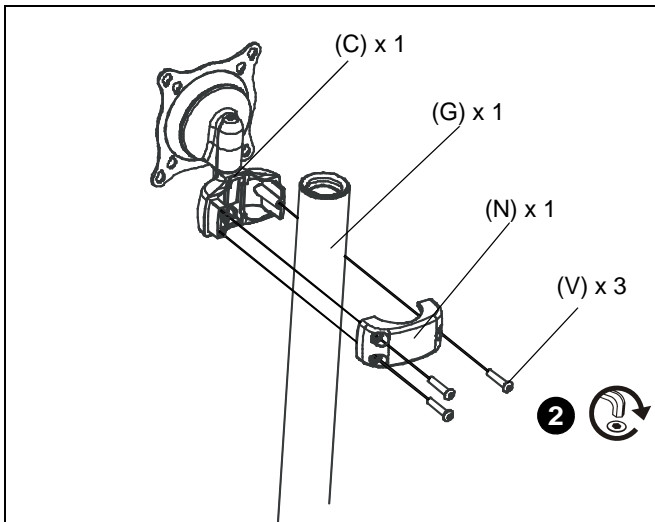

Figure 4
1. Place front pole clamp with Centris Head (C) against pole (G) in approximate mounting location.
2. Place three 1/4-20 X 1 1/4" button head cap screws (V) into rear pole clamp (N) and place against pole aligning with front pole clamp on Centris Head (C). (See Figure 4)
4. Secure rear pole clamp (N) to Centris head's front pole mount (C) and pole (G) by tightening three button head cap screws (V) using 5/32" hex key (J). (See Figure 4)